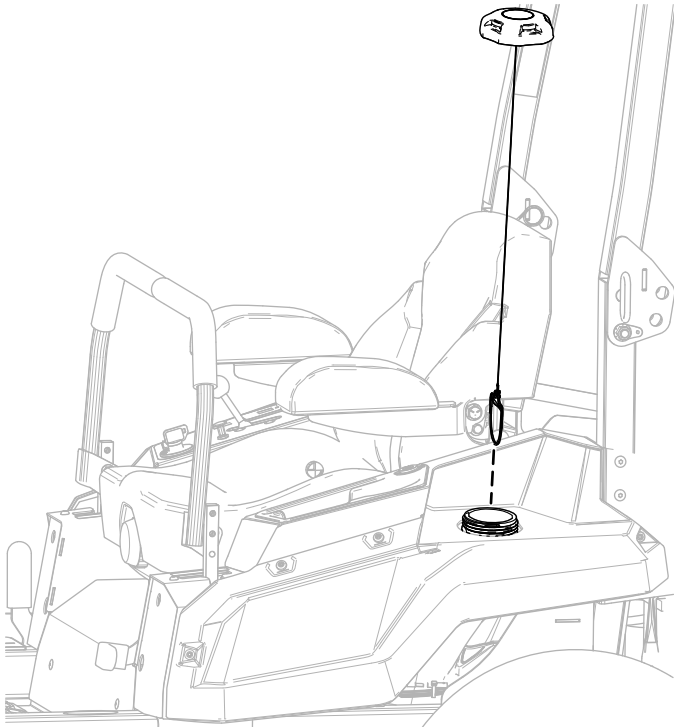

Figure 3
1. Remove the fuel-tank cap from the left side pod (Figure 3).
3. Install the fuel-tank cap (Figure 3).